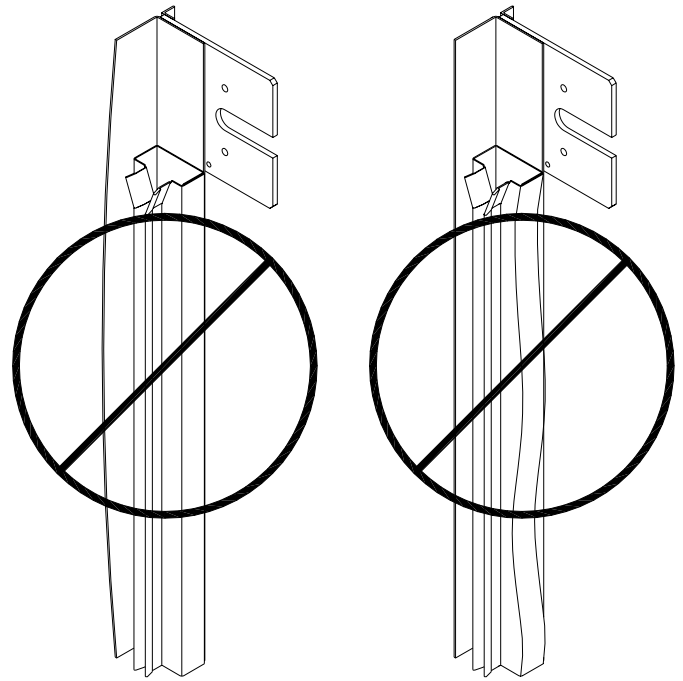

FIG. 6C
- **MAKE SURE UPRIGHTS ARE PROPERLY ALIGNED AND NOT DEFORMED** (Figure 6c).